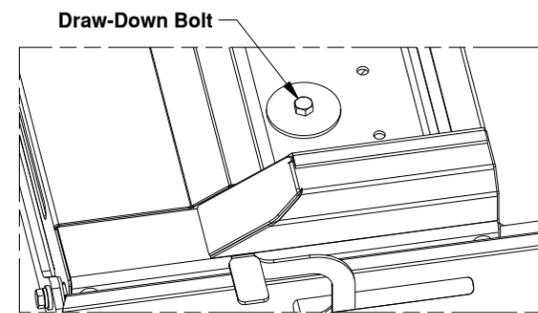

FIGURE B4; View looking into the top of the Slider Base.
6. Secure the base of the Slider to the truck bed by tightening the 1/2" x 3-1/2" draw-down bolt to 80 ft-lbs, see figure B4